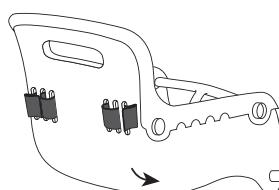

Figure 10
- Each end of the seatbelt should stick out the back of the seat as shown. Pull ends to secure. (See Figure 10)